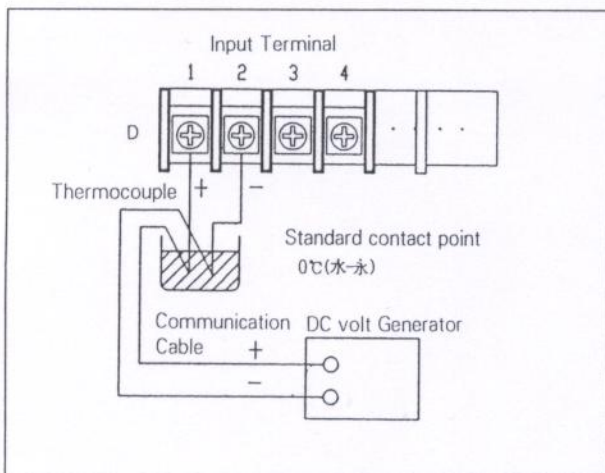

Fig 7.3
- 1) Connect it as fig 7.3 using direct voltage, current generator(STD generator)
- 1) Connect as fig 7.3 using precision-grade convertible resistor(STD generator).